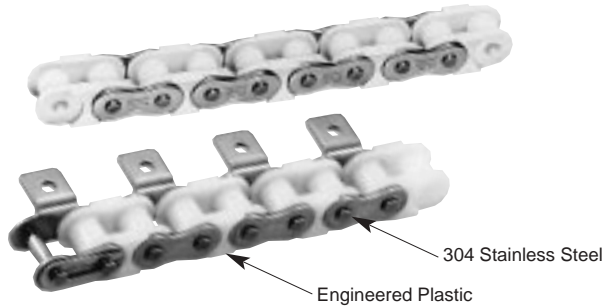

Figure 1.14 Poly-Steel Chain
Poly-Steel (PC) Chains are lube-free chains used in food or medicine production. PC Chains can be used in power-transmission applications, and, with the addition of attachments on the outer plates, as conveyors. (See Figure 1.14.)